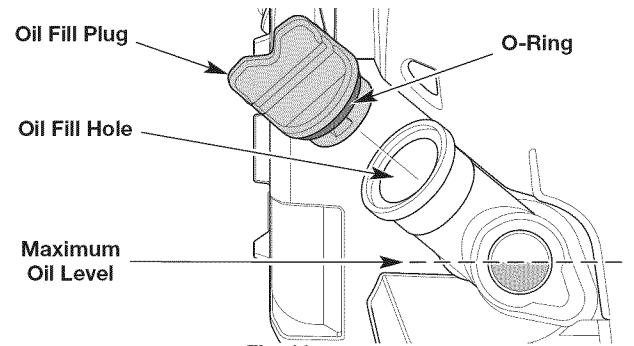

Fig. 22
3. Look into the oil level window; use a flashlight if necessary. **The oil level should fill the window approximately halfway** (Fig. 22). If the oil level is too low, add oil. Refer to *Adding Oil*.
1. Clean the area around the oil fill plug (Fig. 22) to prevent debris from entering the oil fill hole.
3. Add oil to the oil fill hole until the oil level is approximately halfway up the oil level window (Fig. 22).
**NOTE:** Make sure the O-ring is in place on the oil fill plug (Fig. 22).